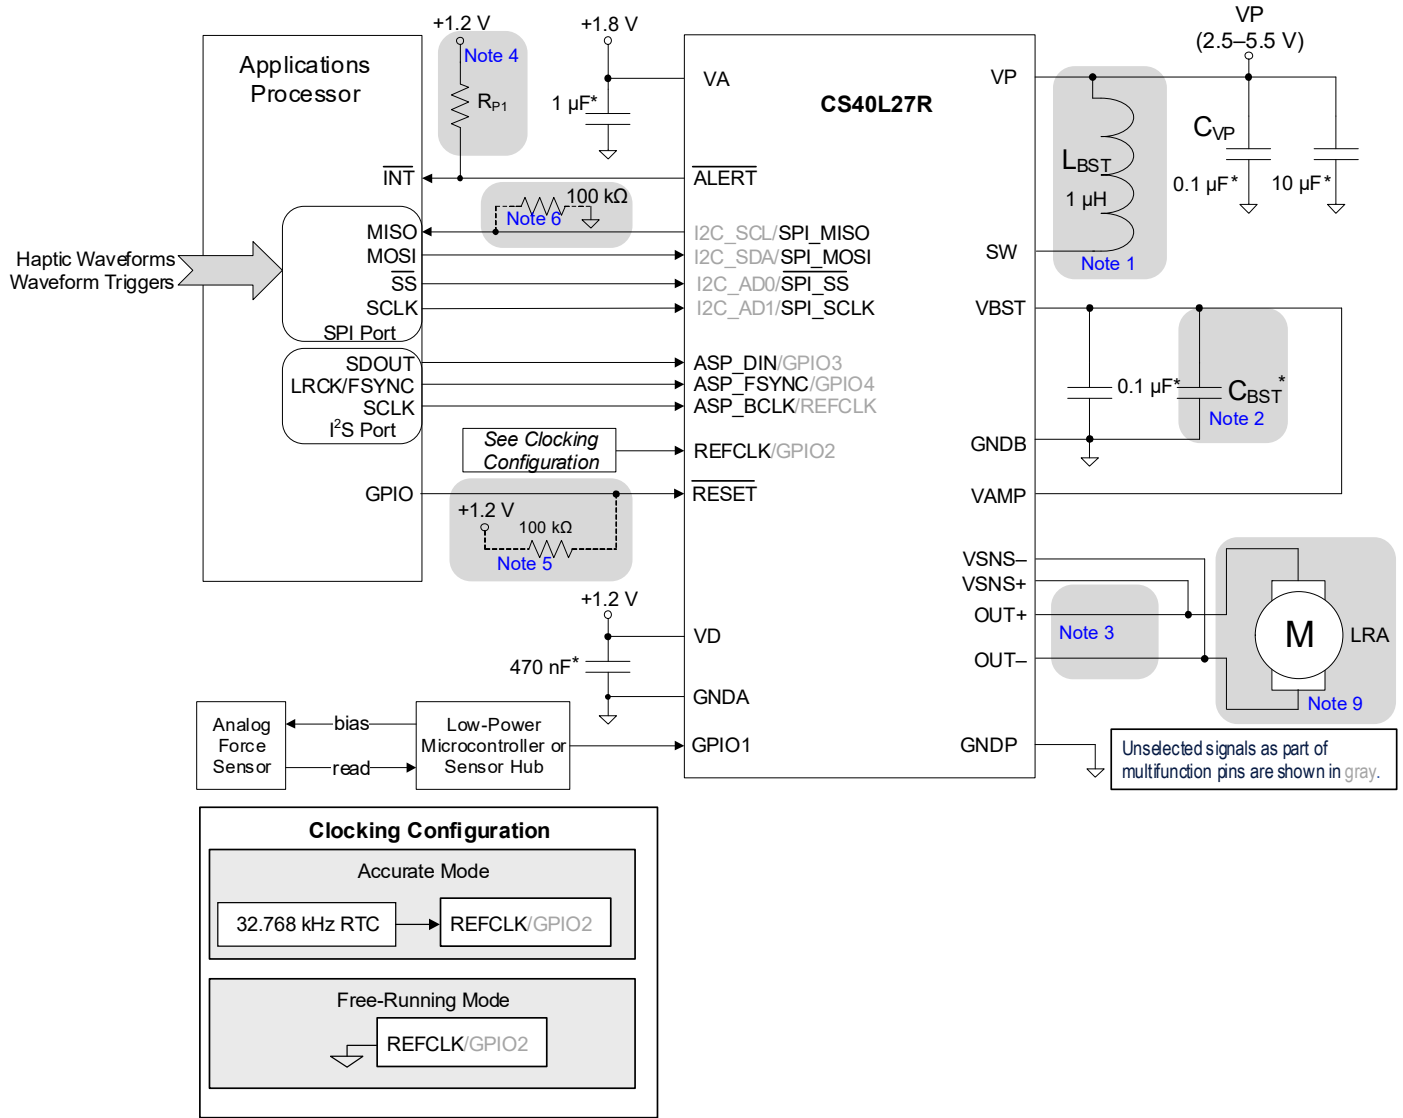
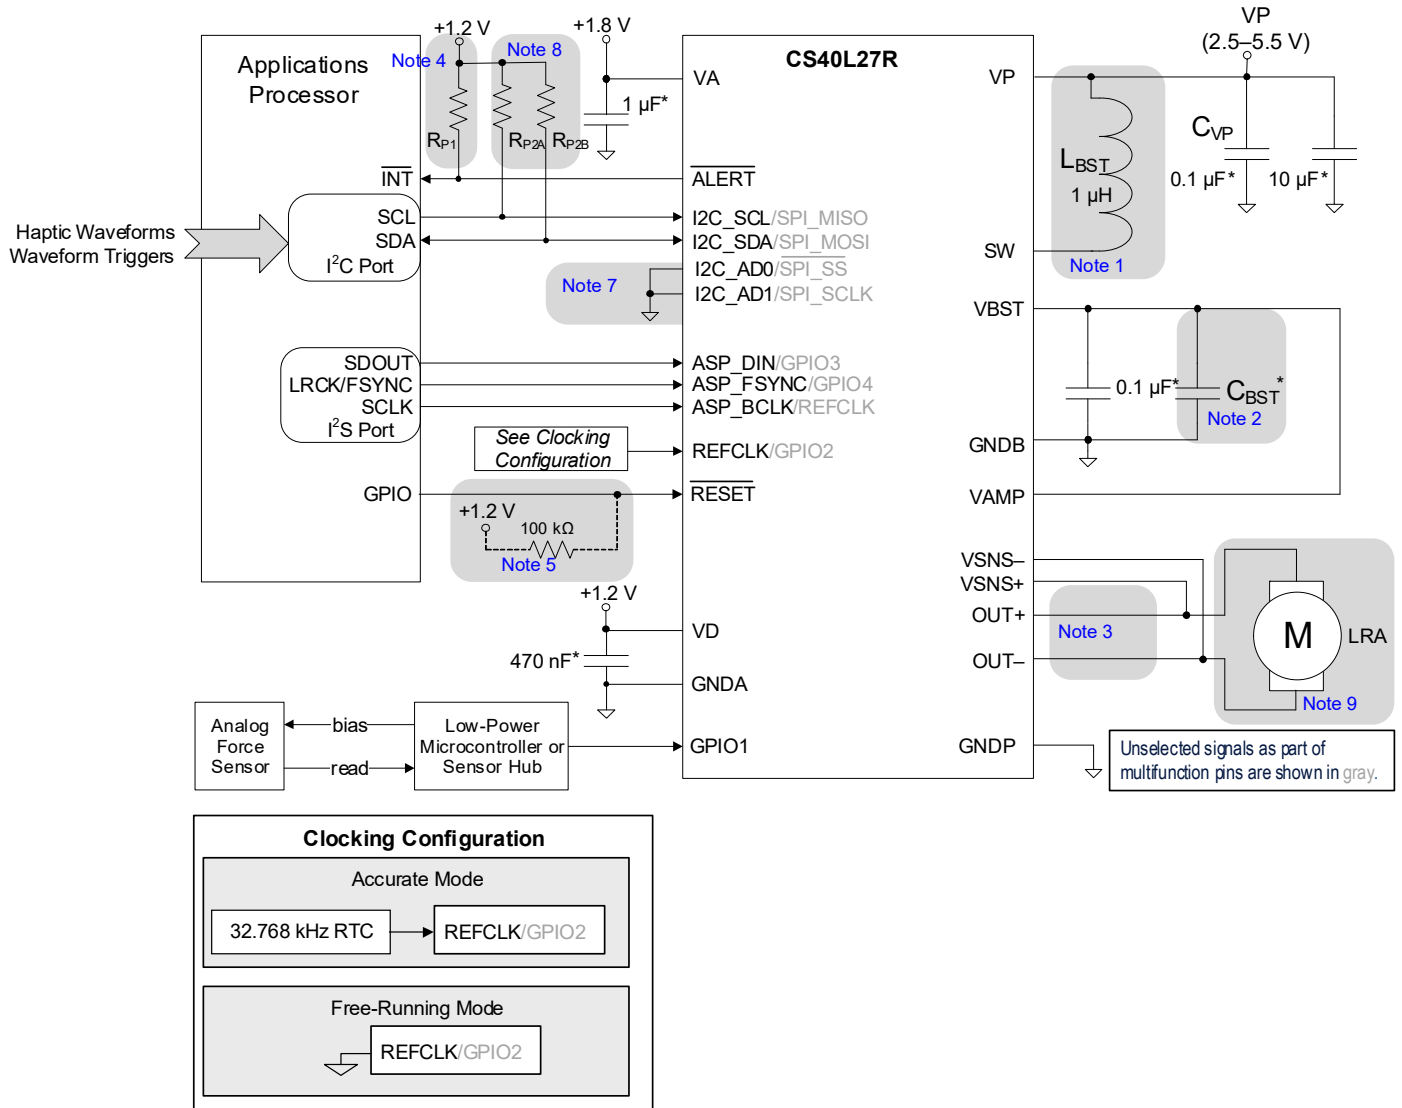

Figure 2-1. Typical Connection Diagram—SPI with GPI and I²S Support
Figure 2-2. Typical Connection Diagram—I2C Interface with GPI and I2S Support
- Fig. 2-1–Fig. 2-2 are examples intended to describe the connectivity of each functional block within the CS40L27R, and do not limit all possible use cases.